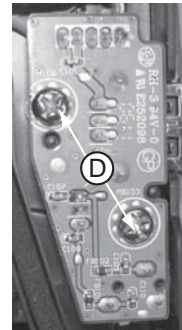

Figure 4
- 2) Loosen 2 screws "D" on the top of MP3 board as shown in figure 4.